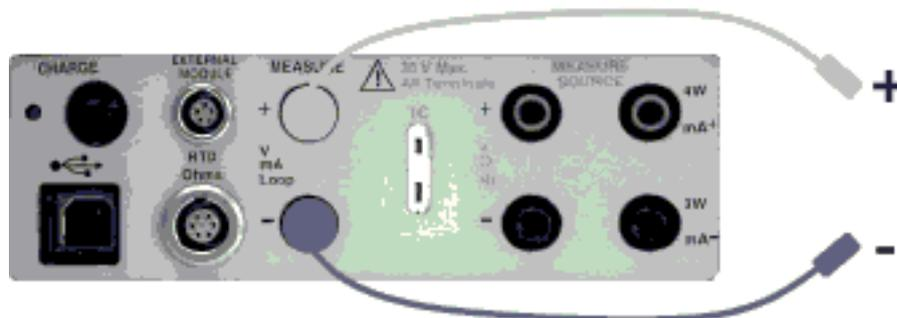

Figure 16: Isolated Input Connection
- Connect the leads to the isolated inputs of the calibrator (shown in Figure 16).